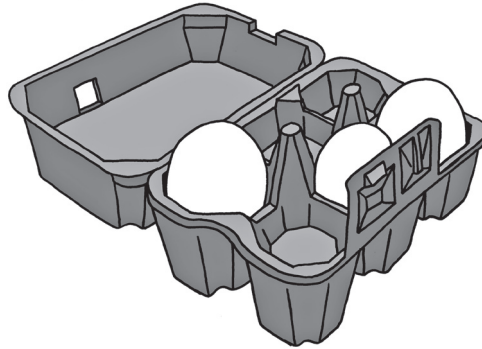

Figure 7
4. Why are eggs packed in special containers like the one in Figure 7?